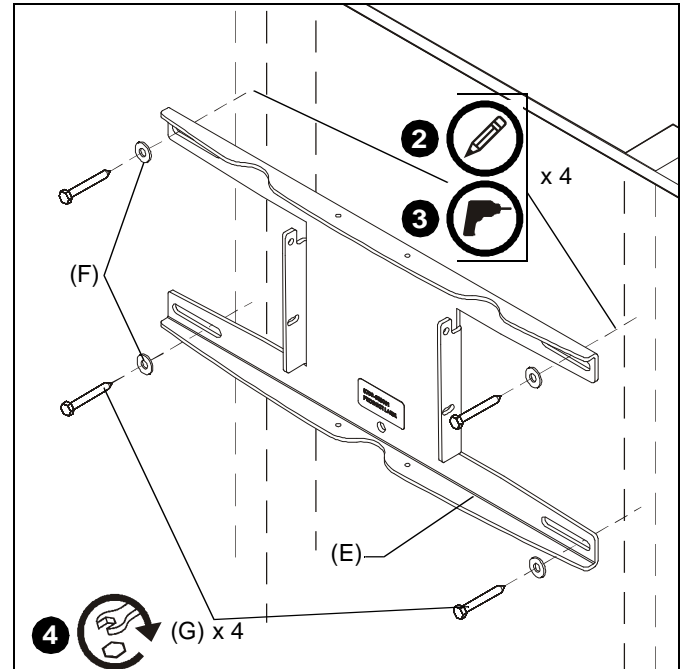

Figure 2
2. Using wall plate (E) as a template, mark four holes through mounting holes in wall plate. (See Figure 2)
3. Drill four 7/32" holes at marked locations in wall. (See Figure 2)
4. Install four 5/16 x 2-1/2" hex head lag screws (G) through four 5/16" washers (F), holes in wall plate (E) and into four pilot holes. (See Figure 2)